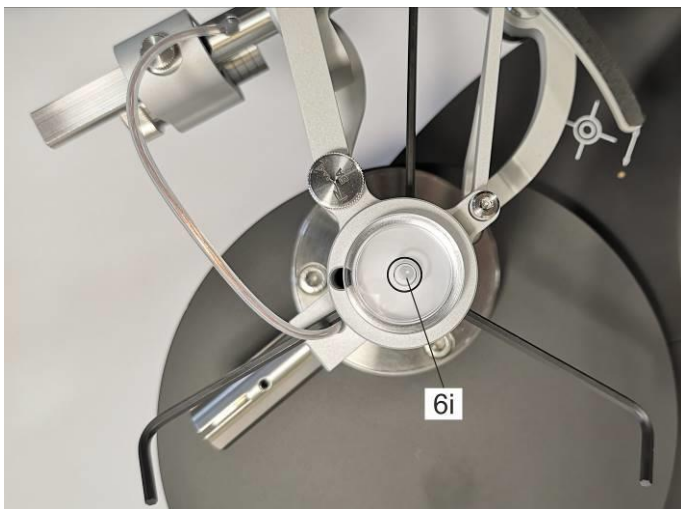

Figure 23
- b) Tonearm level bubble [6i] must be in center of level (*Figure 23*).**